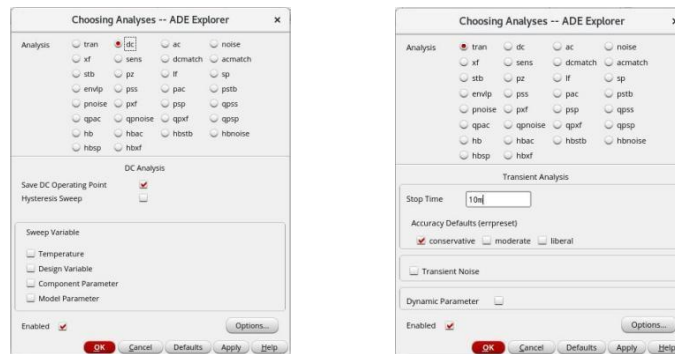

Figure 11: DC and Transient analysis values selection
11. Similarly for the transient analysis go to **Analysis**→**Choose**→<select tran>→<check box "conservative">→**Stop Time**→<10m>→<click OK>. As shown in figure 11 below.